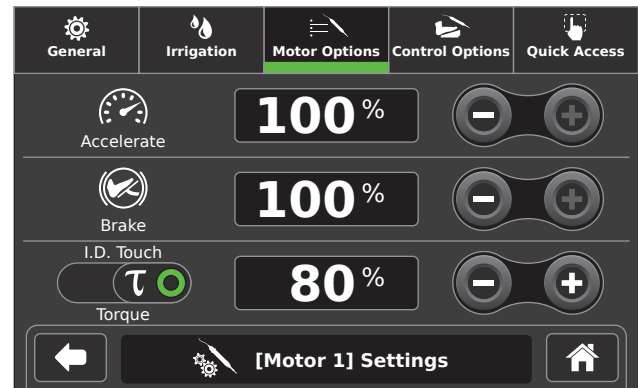

Figure 23 – Motor Options Screen
- Adjust settings as necessary (Figure 23).